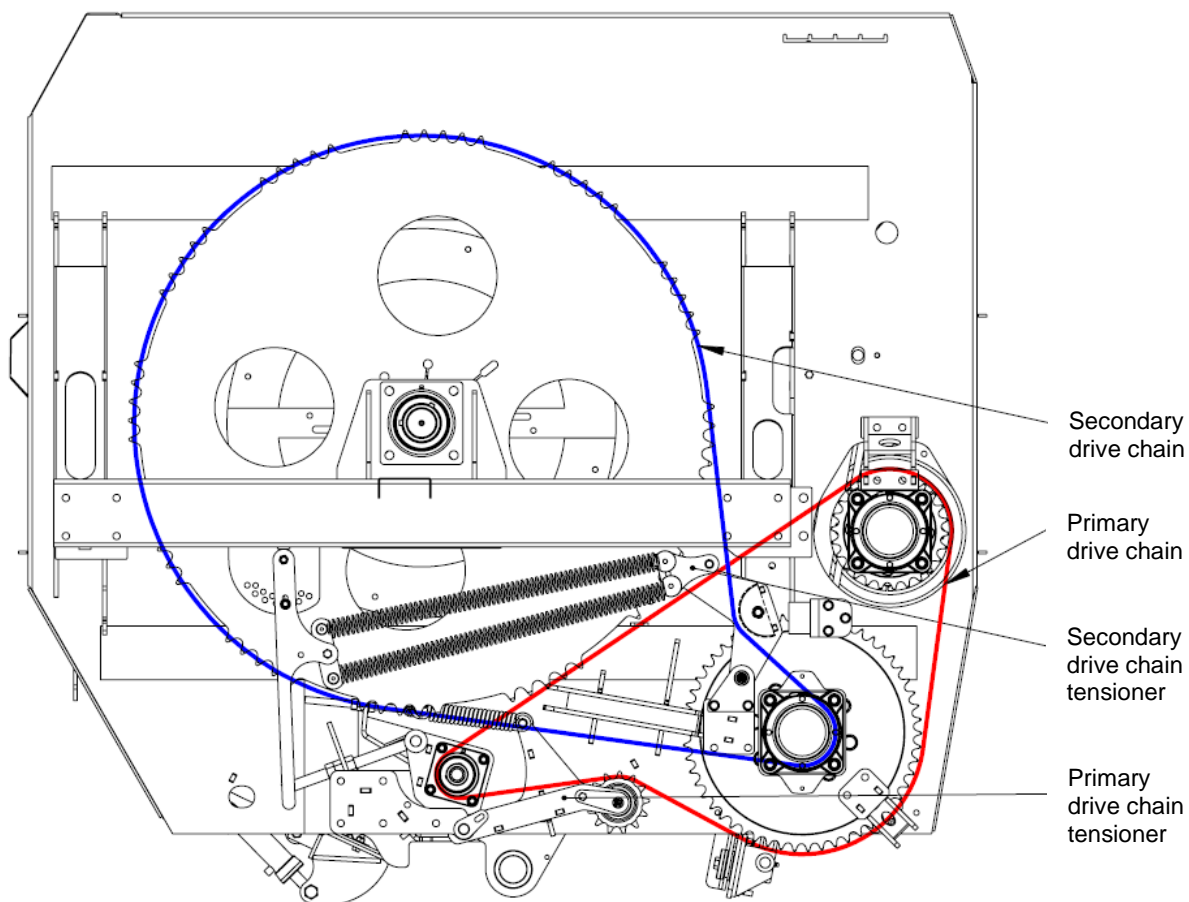

Figure 9: Front panel of KEENAN MechFiber Diet feeder
1. Each week check the condition of the chain tension arms and adjust as required. There are two chains used on the KEENAN MechFiber model. The primary drive chain (ASA100) drives the idler shaft and the auger shaft from the input shaft (see Figure 9), and the secondary chain (ASA140HS) drives the rotor. Both chains are tensioned by spring assemblies on the slack side of the chain.